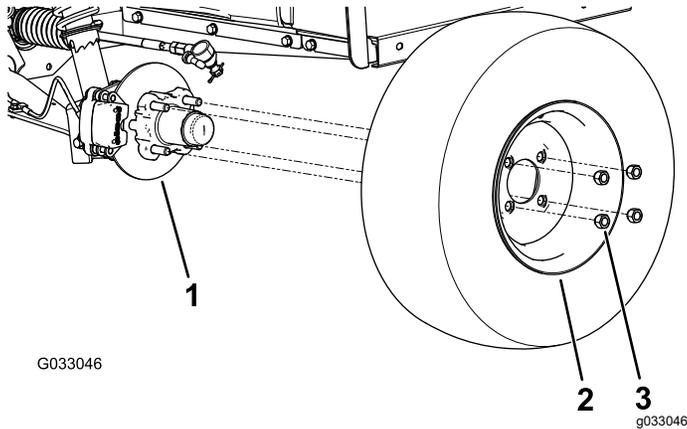

Figure 33
2. Remove the 4 lug nuts that secure the wheel to the hub (Figure 33).
4. Align the holes in the wheel to the studs of the hub and assemble the wheel to the hub with the valve stem outward (Figure 33).
5. Secure the wheel to the hub using the lug nuts (Figure 33).